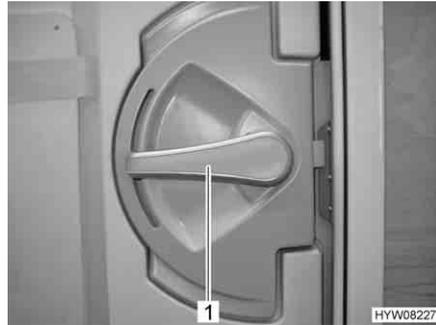

Fig. 24 Door lock, conversion door, inside
- Opening:* ■ Push the handle (Fig. 24,1) down.
- Locking:* ■ Turn the handle (Fig. 24,1) approx. 45° upward and leave it in this position.